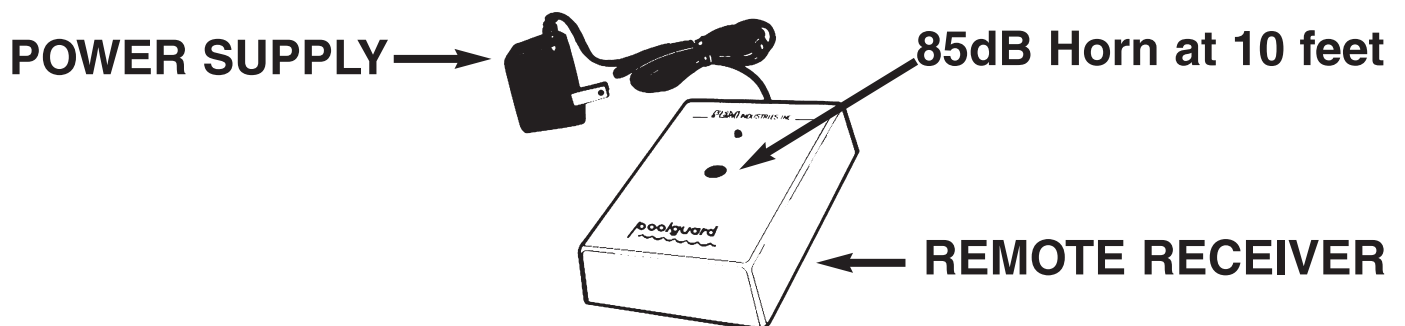

FIGURE 6
- A coded pulse receiver (Remote Receiver), (See Figure 6).
- A standard wall outlet power supply, (See Figure 6).